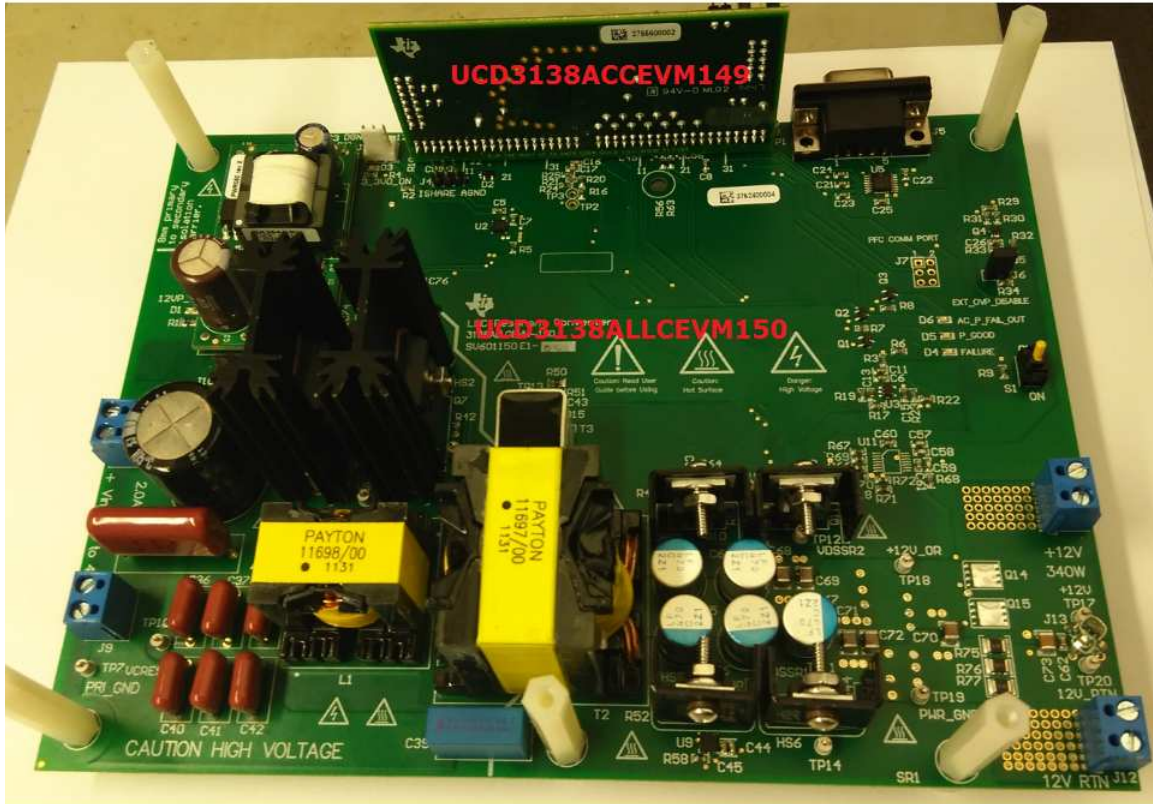

Figure 0-11. Orientation of Board UCD3138ACCEVM149 on Board UCD3138ALLCEVM150
4. First install the UCD3138ACCEVM149 board onto the UCD3138ALLCEVM150. Care must be taken with the alignment and orientation of the two boards, or damage may occur. Refer to Figure 0-11 for UCD3138ACCEVM149 board orientation.